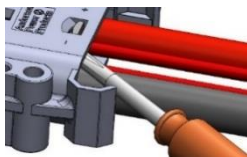

Figure 10
*If necessary to disassemble the connector, follow these instructions (Figure 10):*